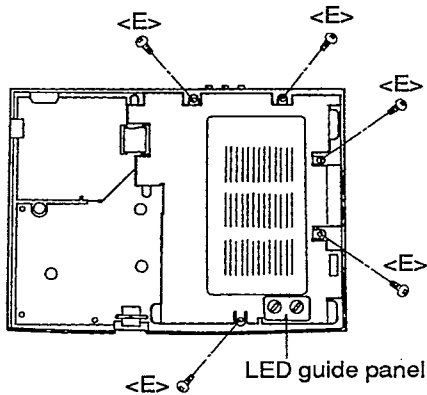
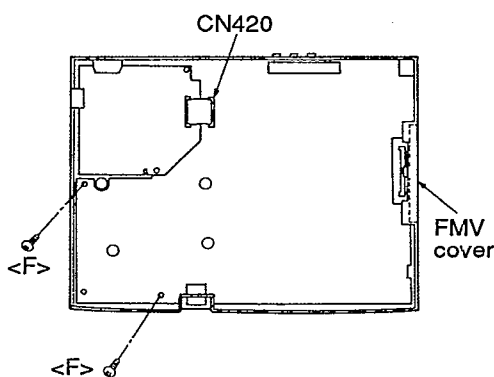

Figure 6
Figure 7
- (1) After removing the top case and traverse unit, remove the LED guide panel.
- (2) Remove five screws <E> and then remove the upper shield plate as shown in figure 6.
- (3) Remove the FMV cover at right side.
- (4) Remove the two screws <F> as shown in figure 7.
- (5) Disconnect the connector (CN420) and then remove the Main PCB.